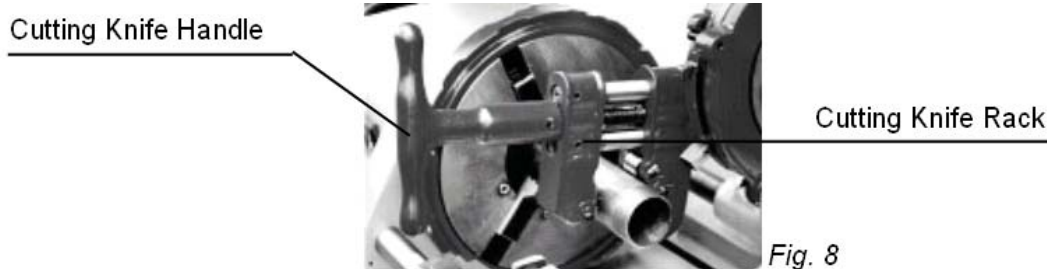

Fig. 8
3. Rotate the sledge handle to move the cutting knife to the cutting position (see Fig. 8)